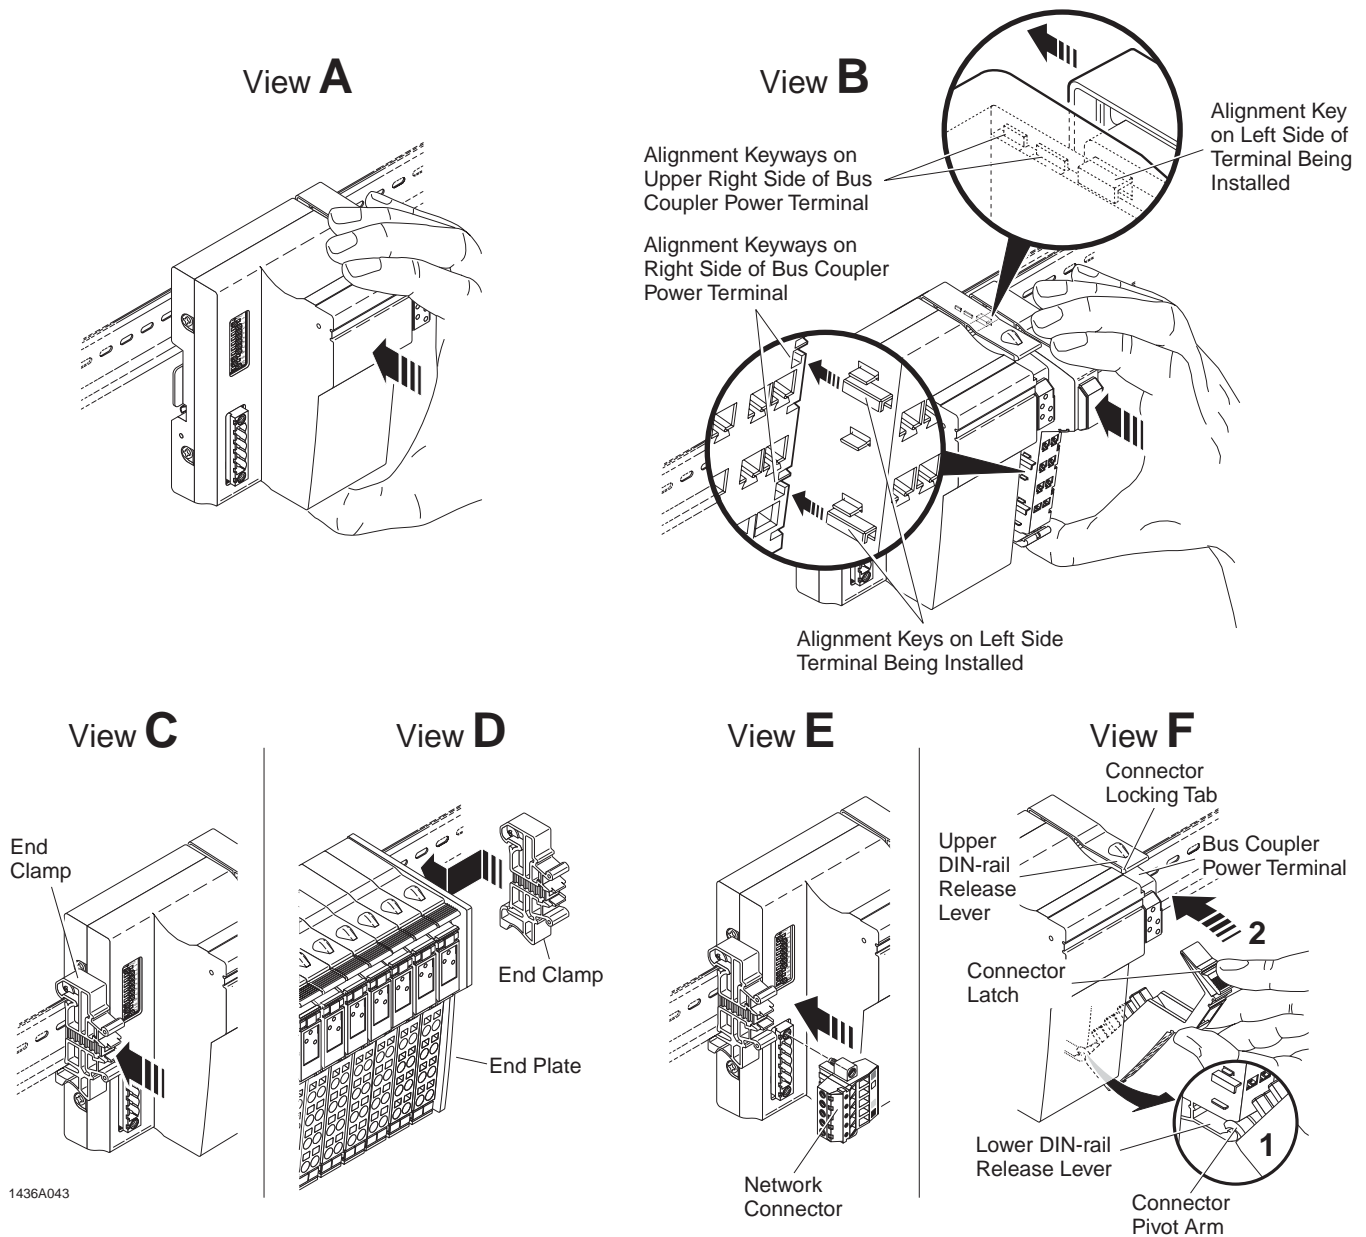

Figure 2-6. Installing Inline Terminals
1. Attach the electronics base for the DeviceNet™ bus coupler to the mounting rail, by pushing the base straight in and onto the mounting rail as shown in Figure 2-6, View A.
2. Obtain the electronics base for the next Inline module to be installed in the station. Align the keys on the left side of the base being installed with the keyways on the right side of the bus coupler power terminal. See Figure 2-6, View B. Once aligned, push the new electronics base of the Inline module straight in and onto the mounting rail.
4. When the electronic bases of all the modules are installed, obtain one of the end clamps provided with the bus coupler. Position the end clamp tight up against the left side of the bus coupler, then push it onto the mounting rail. See Figure 2-6, View C.
5. Obtain the end plate provided with the bus coupler. Position the end plate tight against the last module in the station, then push it onto the mounting rail. See Figure 2-6, View D.
6. Obtain the second end clamp provided with the bus coupler. Position the end clamp tight up against the end plate, then push it onto the mounting rail. See Figure 2-6, View D.
7. Obtain the two connectors supplied with the bus coupler. Using a blade-type screwdriver, attach the 5-pin, with 2x5 contacts, network connector to the bus coupler. See Figure 2-6, View E. Next, install the bus coupler power terminal connector by placing the pivot arm of the connector into the lower DIN-Rail release lever of the electronics base. See Figure 2-6, View F. Then pivot the connector upwards until the connector latch snaps into the locking tab of the upper DIN-Rail releases lever.